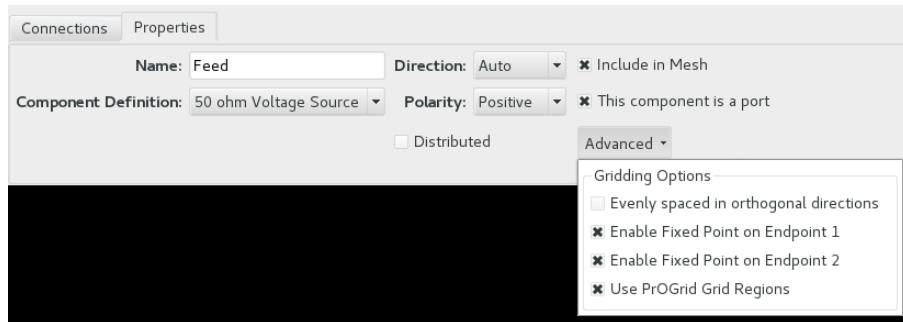

Figure 9.15: Defining Feed Properties on the Circuit Component Editor
- Press the ADVANCED button to expose additional grid-related settings. Check the ENABLE FIXED POINT ON ENDPOINT 1 and ENABLE FIXED POINT ON ENDPOINT 2 checkboxes as shown in Figure 9.15. These additional fixed points will make sure that the Yee cell edge representing the Feed is centered within the circular cross-section of the dipole.